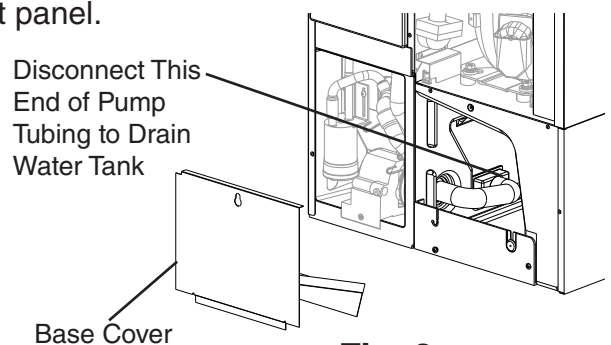

Fig. 8
- 3) Drain the water tank. Remove the base cover, then disconnect one end of the pump tubing to drain the water tank. See Fig. 8. After the water tank has drained, reconnect the pump tubing.